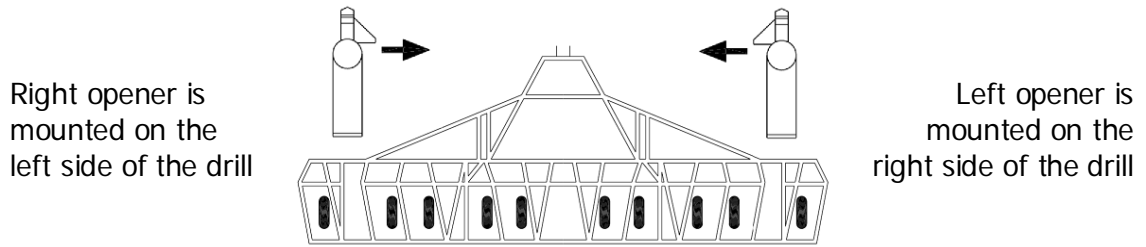

Figure 4: Opener orientation
Mounting your openers on the correct side of the drill will reduce the chances of plugging while turning with the drill in the ground. A “left” opener will have the wing pointed to the left when viewed from the back. In Figure 4, the arrows represent the direction of the wing.
- 3) Carbide protected wings for side band openers can be purchased through Atom-Jet to weld on to replace broken and worn-out wings. Remember the designation of left and right wings based on the side of the drill shown in Figure 4.